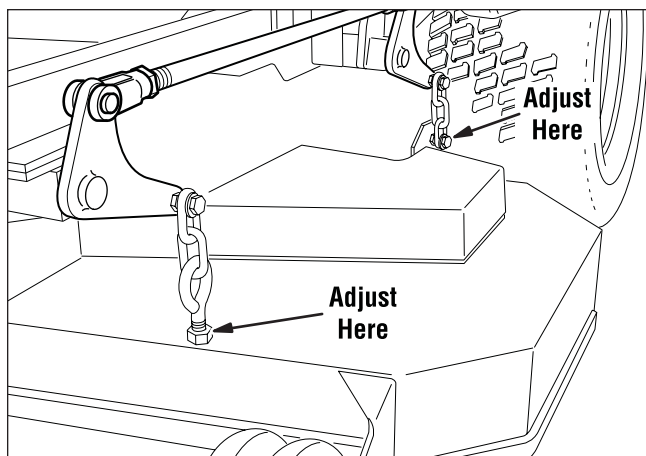

Figure 39. Hanger Chain Adjustment
4. Adjust the front eyebolts until the chains are tight and the deck is still resting on the 2 x 4's. Tighten the jam nuts. See Figure 39.
5. Loosen the nuts and allow the rear of the deck to rest on the 2 x 4's and 1/4" spacers. Slide the chains down in the slots until the chains are tight and tighten the nuts. See Figure 39.